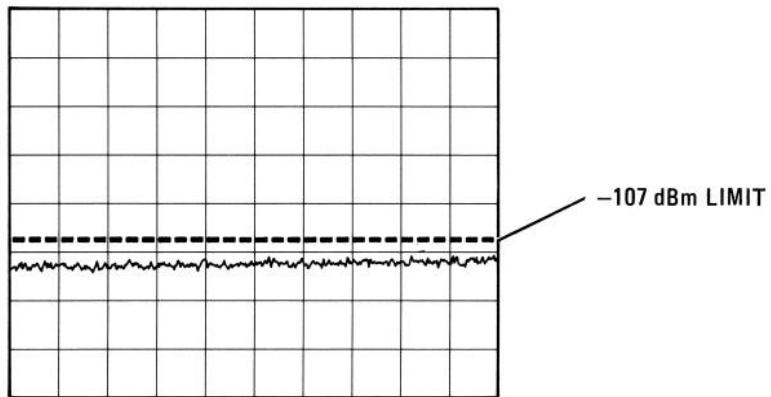

FIGURE 4-12. AVERAGE NOISE LEVEL MEASUREMENT
- Adjust TUNING until LO feedthrough is not on screen. Set VIDEO FILTER to MAX (not in detent) and observe CRT display of noise level from 1 MHz to 1000 MHz. Noise level, as shown in Figure 4-12, should be less than -107 .
001: Change " -107 dBm" to " -100 dBm" throughout procedure and in Figure 4-12.
002: Change " -107 dBm" to " -53 dBmV" throughout procedure and in Figure 4-12.